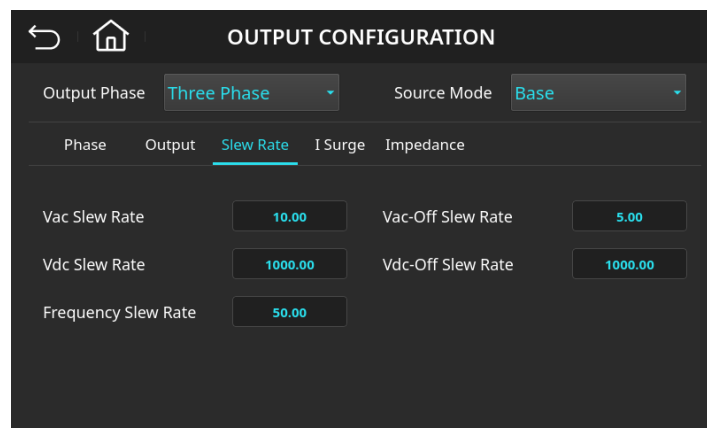

Figure 4-42: Output Slew Rate (Slew Rate) Setting Page
7. Enter **5**, **0**, then press the **Enter** key. The value will change to "50.00", as shown in Figure 4-42.